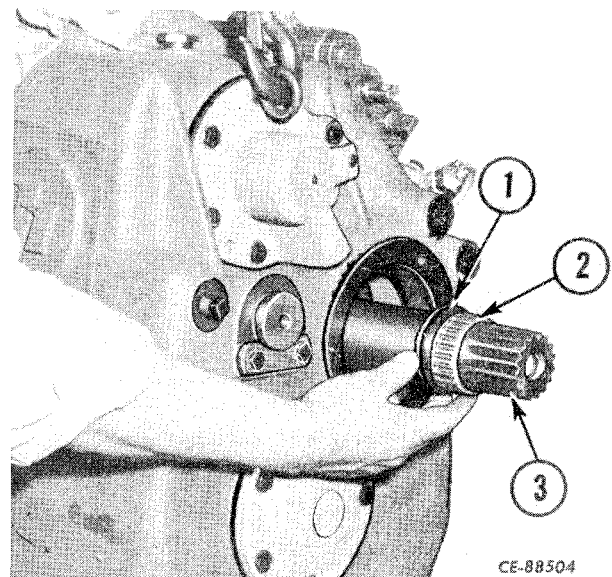

Figure 4-19
Remove the inner roller bearing (2, Fig. 4-19) and the thrust washer assembly (1) from the shaft (3).